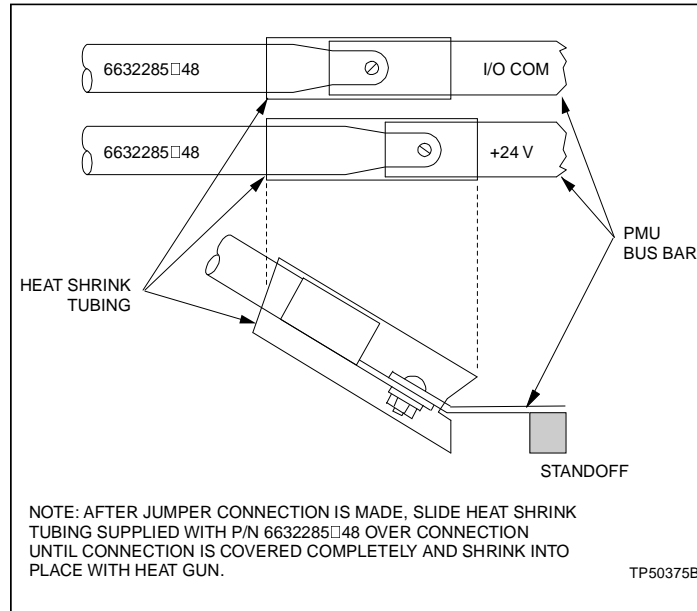

Figure 3-8. Heat Shrink Tubing for 24 VDC Connection
10. Slide heat shrink tubing over PMU connection (see Figure 3-8). Insure that connections are properly covered, then use heat gun to shrink the tubing into place.
13. Slide heat shrink tubing over PMU connection (see Figure 3-8). Insure that connections are properly covered, then use heat gun to shrink the tubing into place.